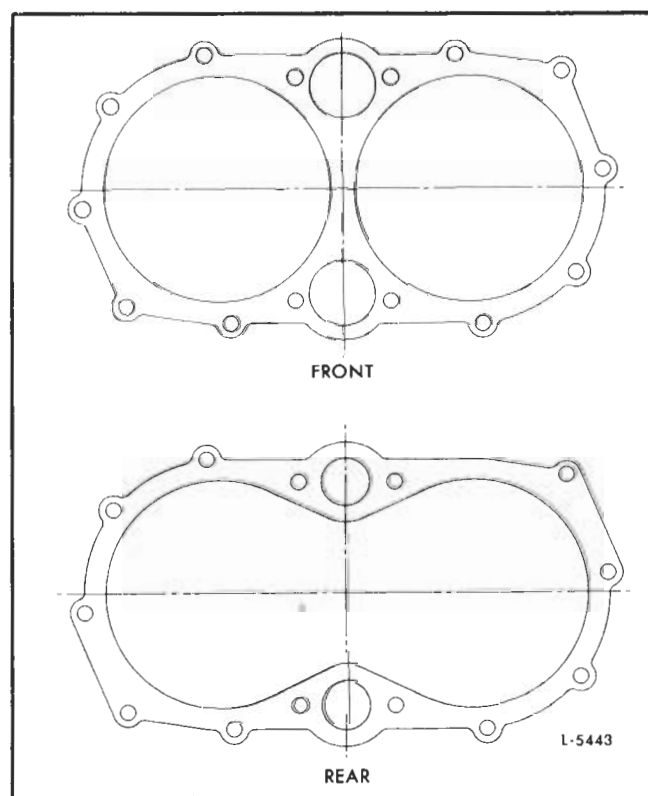

Fig. 12 - Cover Gaskets for Dual Tube Type Oil Cooler
The engine oil from the lubricating oil pump enters a passage in the oil cooler front cover, passes through the remote mounted oil filter, then around the tubes in the engine section of the oil cooler, back through the outlet passage in the front cover, and then to the oil galleries in the cylinder block (Fig. 12).
6. Use a new front gasket (Fig. 12) and attach the front cover to the oil cooler with ten 3/8"-16 x 3" bolts and lock washers. Tighten the bolts to 30-35 lb-ft (41-47 Nm) torque.
7. Use a new rear gasket (Fig. 12) and attach the rear cover to the oil cooler with ten 3/8"-16 x 3" bolts and lock washers. Tighten the bolts to 30-35 lb-ft (41-47 Nm) torque.